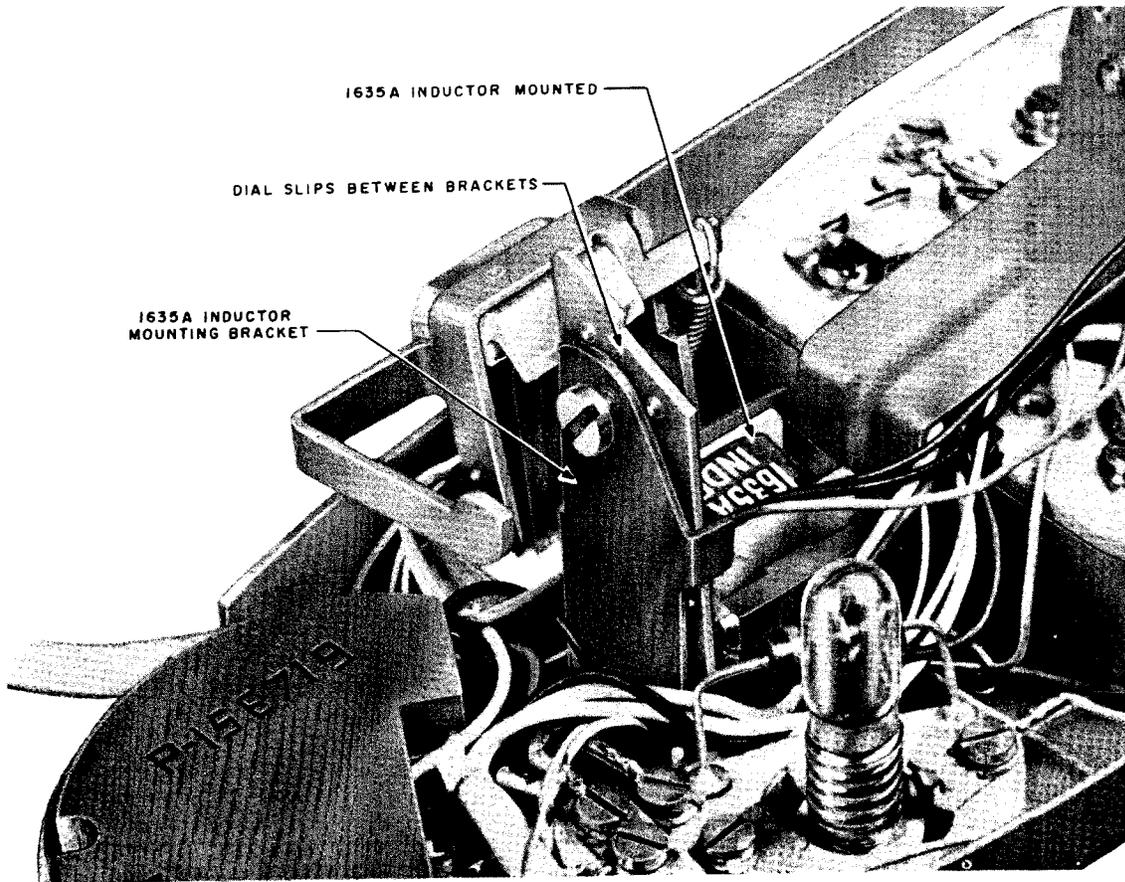

Fig. 7 – 1635A Inductor Mounted in 701B Telephone Set
2.09 To install the 1635A inductor, follow steps 1 and 2 of 2.08. Then remove left screw from dial mounting bracket. Place inductor as shown in Fig. 7. Replace screw through hole in inductor bracket and connect leads. Replace the dial making sure the left dial mounting fork is between the two brackets.